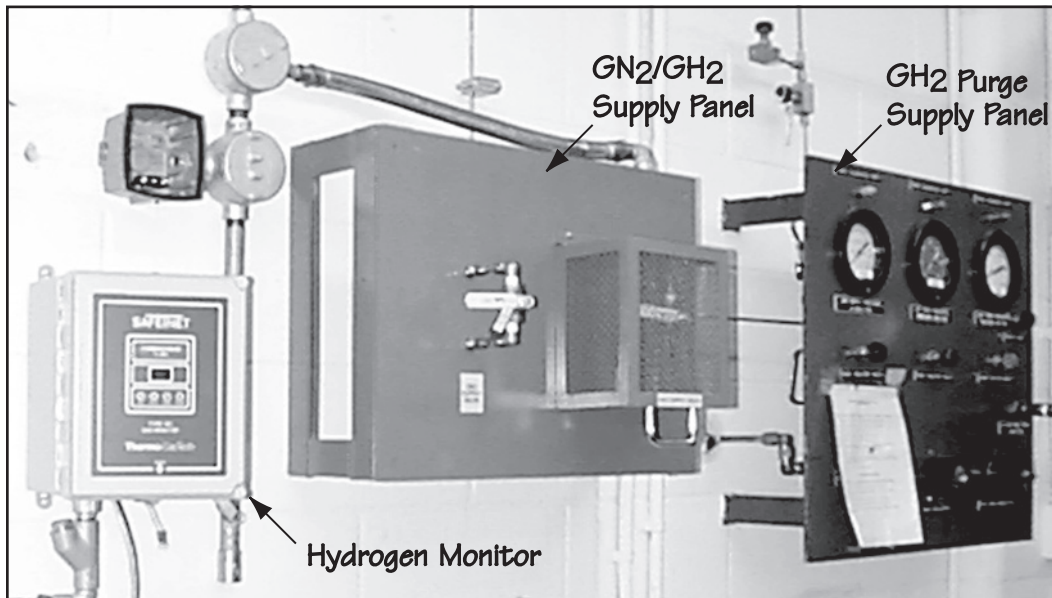

Figure 4.1-13.
4.1.8. **Verify** that the hydrogen monitor, located on the east range wall (Figure 4.1-13) is calibrated in accordance with the manufacturer's specifications and that the monitor is working.
4.1.12. **Check** that the GN2 pressure is set at 25 psig on the **GN2 Purge Supply Panel**, located on the east range wall (Figures 4.1-13 and 4.1-18).
4.2.1. In the gun room, **ensure** that the hydrogen monitor (Figure 4.1-13) is operational.